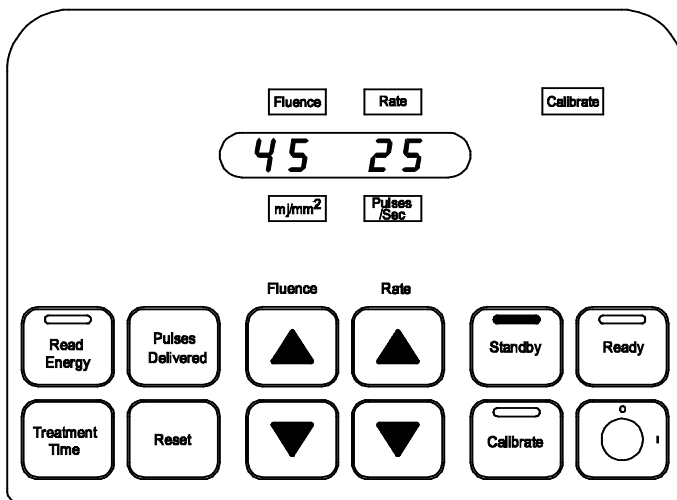

Figure 5
- The appropriate calibration values will be displayed for the device in use. (Figure 5)